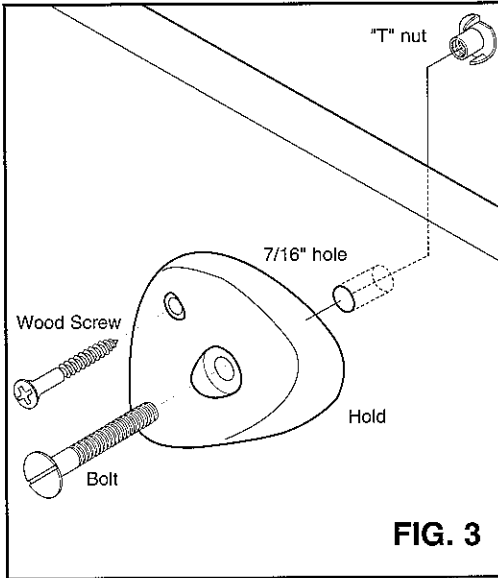

FIG. 3
5. Insert a "T" nut into each hole on the **BACK** of the wall (see Fig. 3). Using a hammer, pound the nut flush with the wall.
6. Insert a bolt through the large hole of each hold and through a hole on the front of the wall (Fig. 3).
9. Insert a wood screw in the smaller hole of the hold and secure to the wall (Fig. 3).